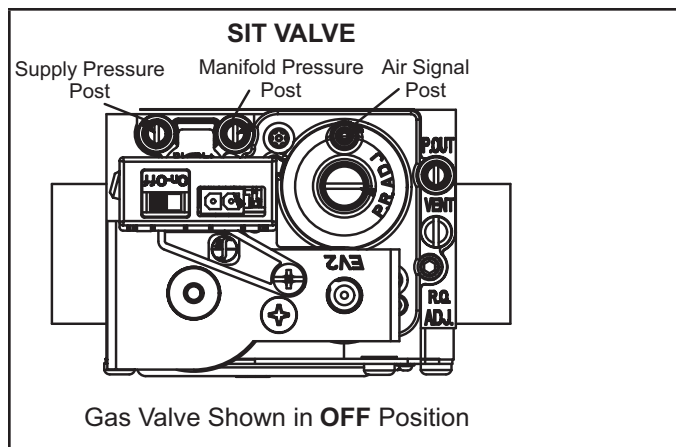

FIGURE 3
### Operating the Gas Valve (Figure 3)
- 6 - Move switch on gas valve to OFF. Do not force. See figure 3.
- 4 - Move switch on gas valve to OFF. Do not force. See figure 3.